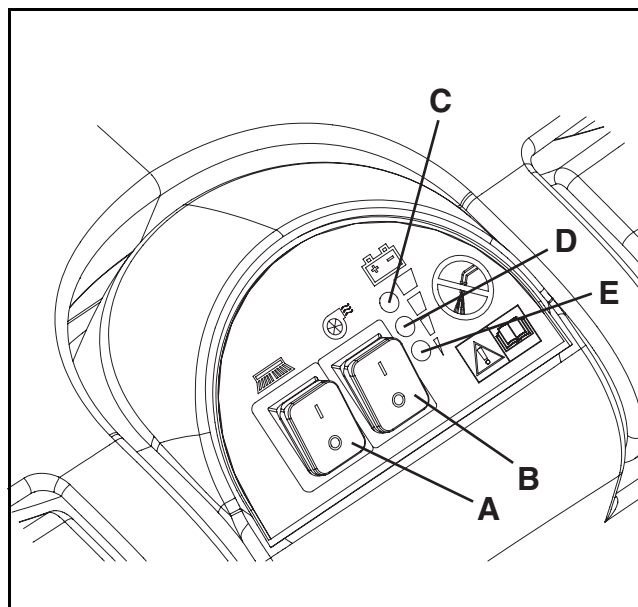

Figure 6
- Turn the brush/pad rotation switch and the water vacuuming switch (A and B, Fig. 6) to the "I" position. If the green warning light (C) turns on, the batteries are ready to be used.
- If the yellow or red warning light (D or E, Fig. 6) turns on, it is necessary to charge the batteries before using the machine (see the procedure in the Maintenance chapter).